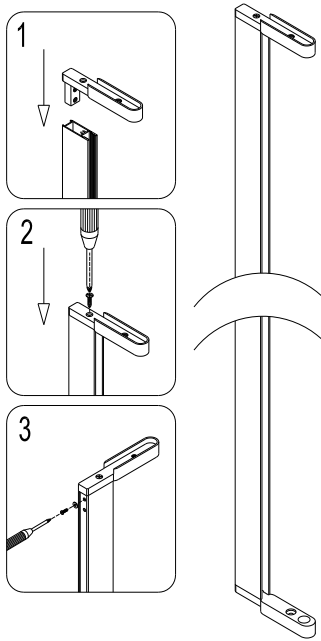

Fig. 3
4. Locate the short **Glass profile 1 (2)**. Push the upper **Pivot bracket (17)** into the top groove of the **Glass profile**; then secure it to the profile with **Countersunk screws ST4.2x25 (24)** and **M4x16 bolt (20)**. Repeat the same steps for the bottom pivot bracket. See Fig 3 for details.